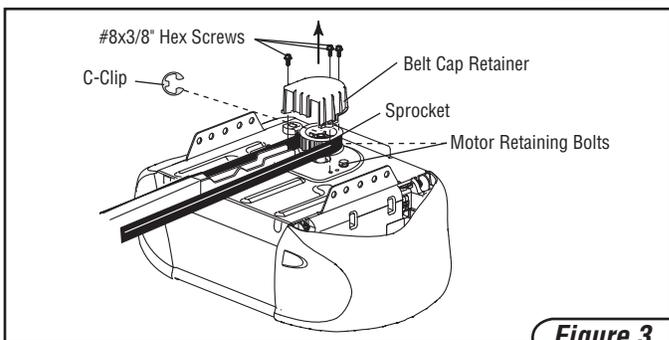

Figure 3
7. Remove the belt cap retainer on top of opener by removing the three screws that secure it (Figure 3). Remove the belt from the sprocket. Position the trolley at the center of the rail.
8. Use screwdriver to remove C-clip from motor shaft. Then slide the sprocket off motor shaft (Figure 3).
10. Remove the motor by loosening the three bolts and washers on the top of the opener (Figure 3).